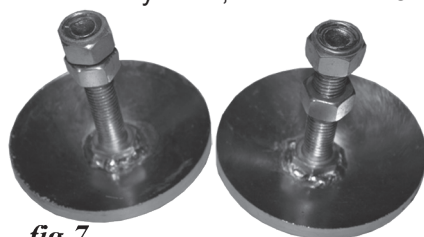

fig.7
6. If not already done, thread an M18 nut onto the shaft of each skid shoe (fig.7).